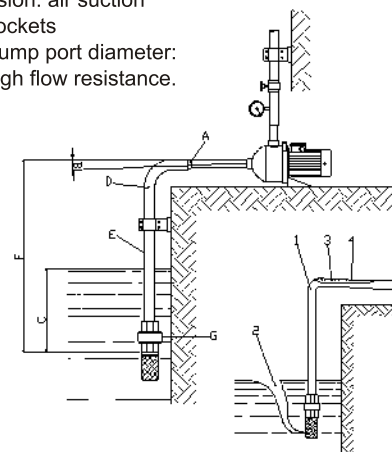

Fig.3
- **Proper installation (Fig.3)**
- **Improper installation (Fig.3)**